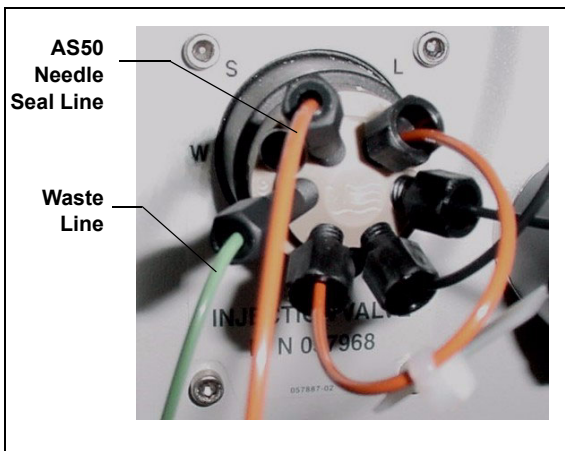
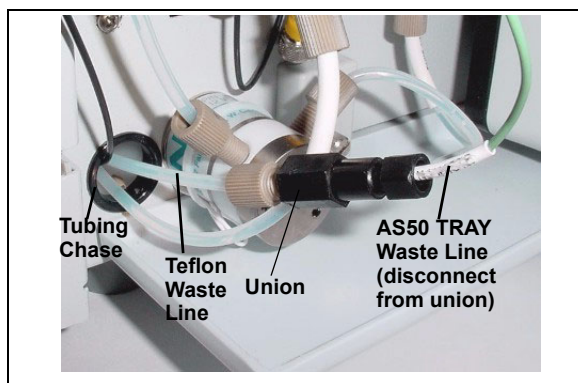

Figure 39. ICS-1000 Injection Valve
Figure 40. Injection Valve Waste Line Union
4. Connect the needle seal line from the AS50 to port **S (5)** on the injection valve (see Figure 39).
The green waste line that is connected to port **W (6)** on the injection valve (see Figure 39) is connected with a union to a Teflon waste line (see Figure 40) and routed through the tubing chase to the ICS-1000 rear panel.